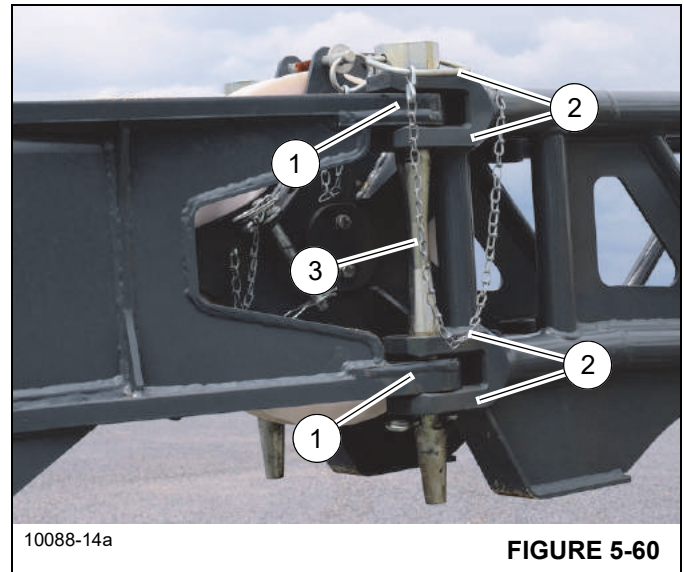

FIGURE 5-60
6. Remove the retaining clip and pin (3, Figure 5-60) that is inserted in to the left side fittings (1, 2). Place the pin in its holder on the boom extension base section and secure with retaining clip.